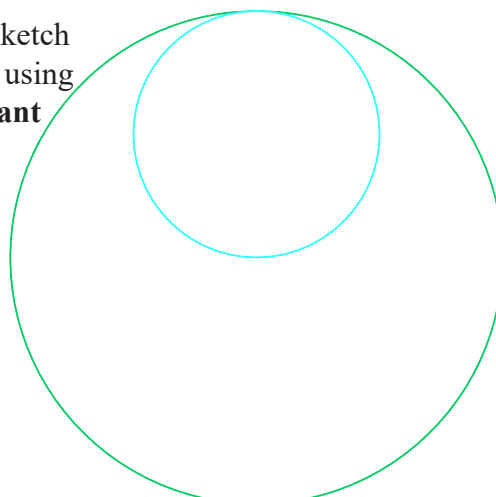

Fig. 3
Step 2. Use the **upper quadrant** and **Origin** for the two points to sketch circle, **Fig. 3.**